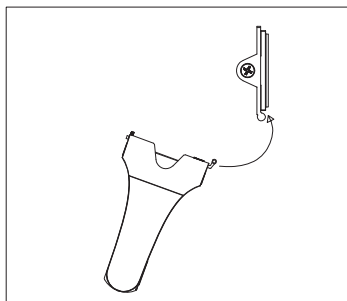
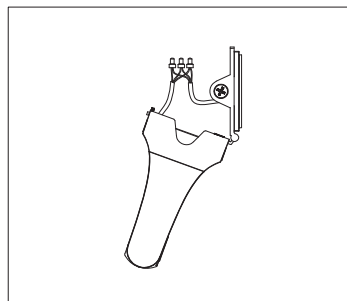

Figure 8
Figure 9
Step 6: Buckle the rotating shaft of the lamp base from the back of the cover and connect the wires properly (Figure 8 & Figure 9)